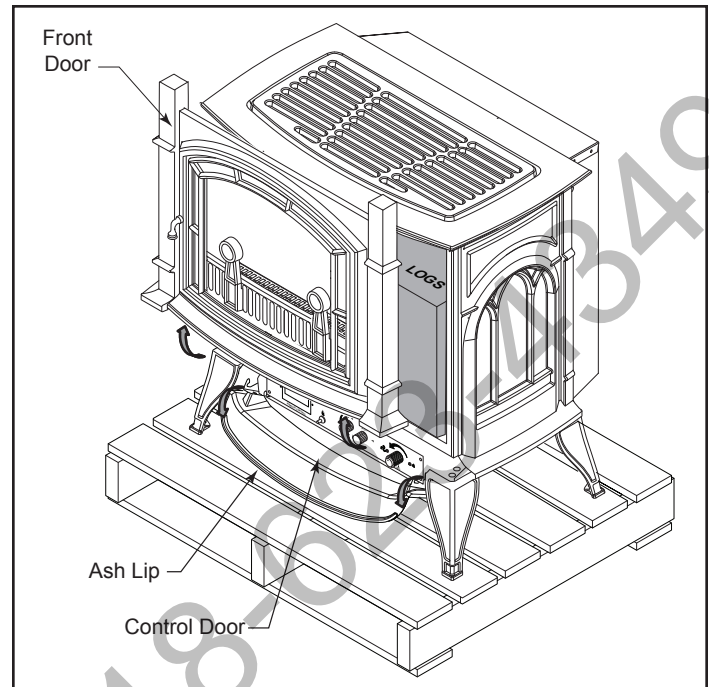
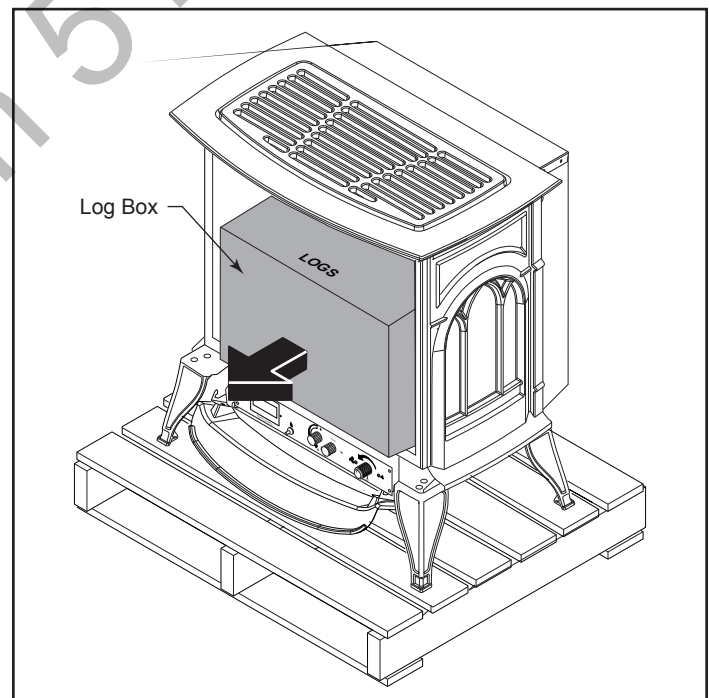

Figure 7 - Remove hearth door - Open control door
Figure 8 - Remove log box
2. Lift up on ash lip and pivot down to open control door. Figure 7.
3. Lift up on front. Pivot bottom of front out. Remove front. Figure 7.
4. Loosen (2) 1/8" screws at the bottom of the screen and lift screen to remove.
5. Remove log box from inside of unit. Figure 8.
6. Remove (4) shipping brackets located at the leveler screw of each leg. Lift unit off pallet.
**NOTE:** You will need at least two (2) strong people to lift unit off of pallet.